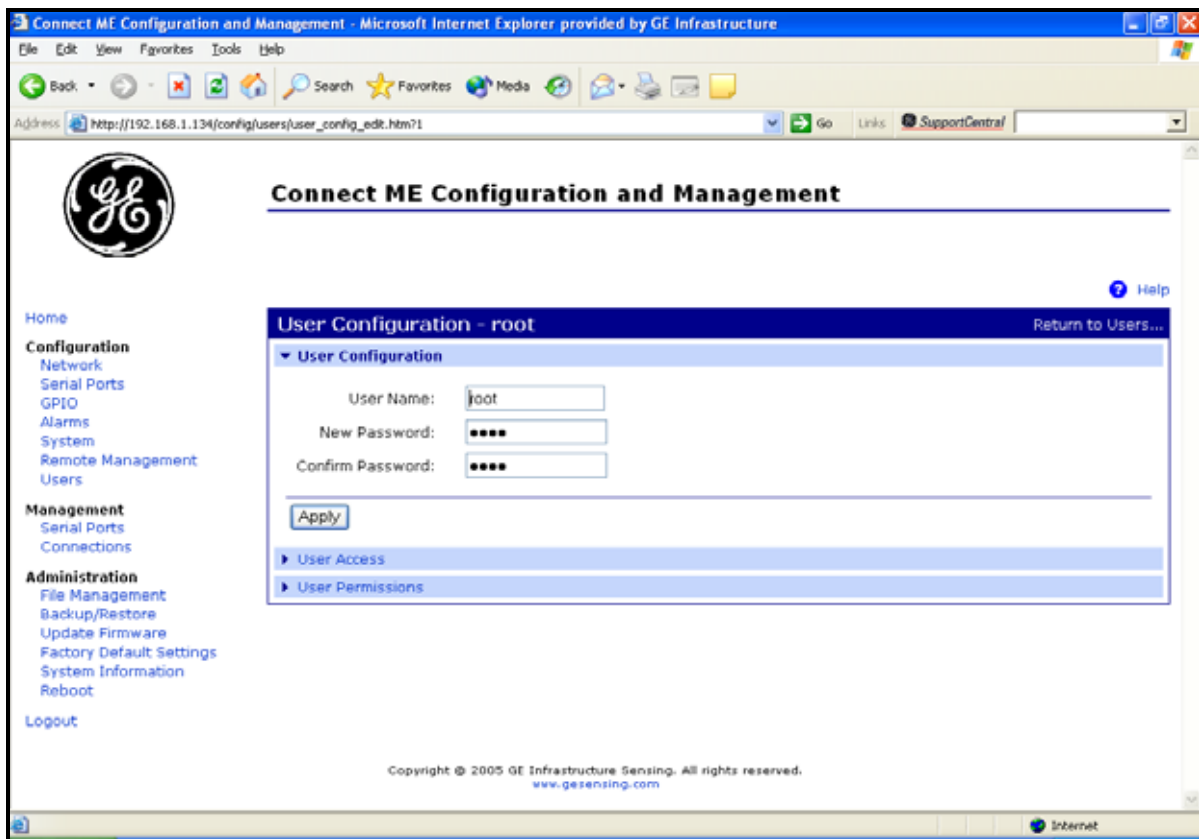

Figure 25: Changing the User Name and/or Password
5. Click on **New....** Figure 25 on page 42 appears.